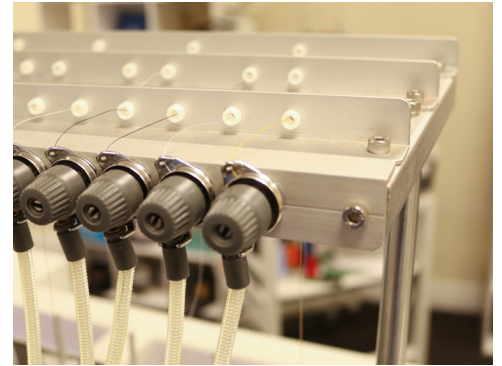

Figure 19
To thread your machine from the very beginning, follow these simple steps. You will use the eyelets on the thread rack to guide the thread in a straight path toward the first tension knob. Make sure the thread passes through each eyelet. You will need to thread the first three cones in order from back to front. Then, repeat this order with the next three cones and so forth. **See Figure 19.**
1. Thread each spool through the eyelets on the upper thread rack until they reach the top tension knobs. **See Figure 19.**